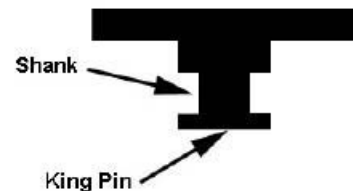

*Figure 3-5 – Fifth Wheel Checks*
9. Inspect the coupling. See Figure 3-5. Verify there is no space between the kingpin plate and the fifth wheel. If there is space, the kingpin may be on top of the fifth wheel jaws. Raise the trailer with the landing gear, pull the fifth wheel release lever and pull the truck ahead. Repeat steps 6-9 again to couple the trailer correctly.